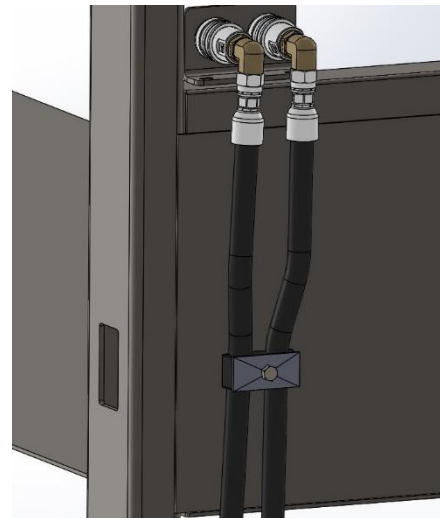

Figure 7
12. Thread the 5/16" bolt (**Item 11**) through the cover plate (**Item 7**) and hose clamp (**Item 6**). Align both quick coupler hoses and place assembled hose clamp on top of them threading the 5/16" bolt through the hole drilled in step 9. Figure 7